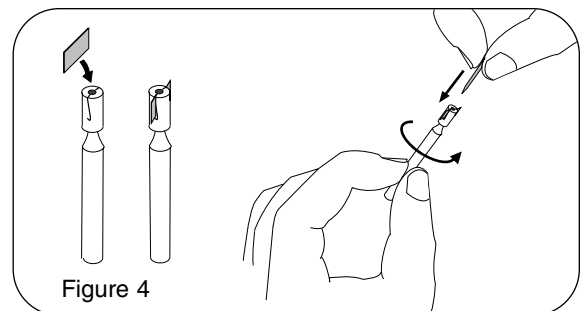

Figure 4
4. Slip a new piece of electrode polishing paper in the electrode cleaning tool with the rough side facing the hole in the cleaning tool (Figure 4).
5. While securing the polishing paper, rotate the electrode several times (Figure 4).